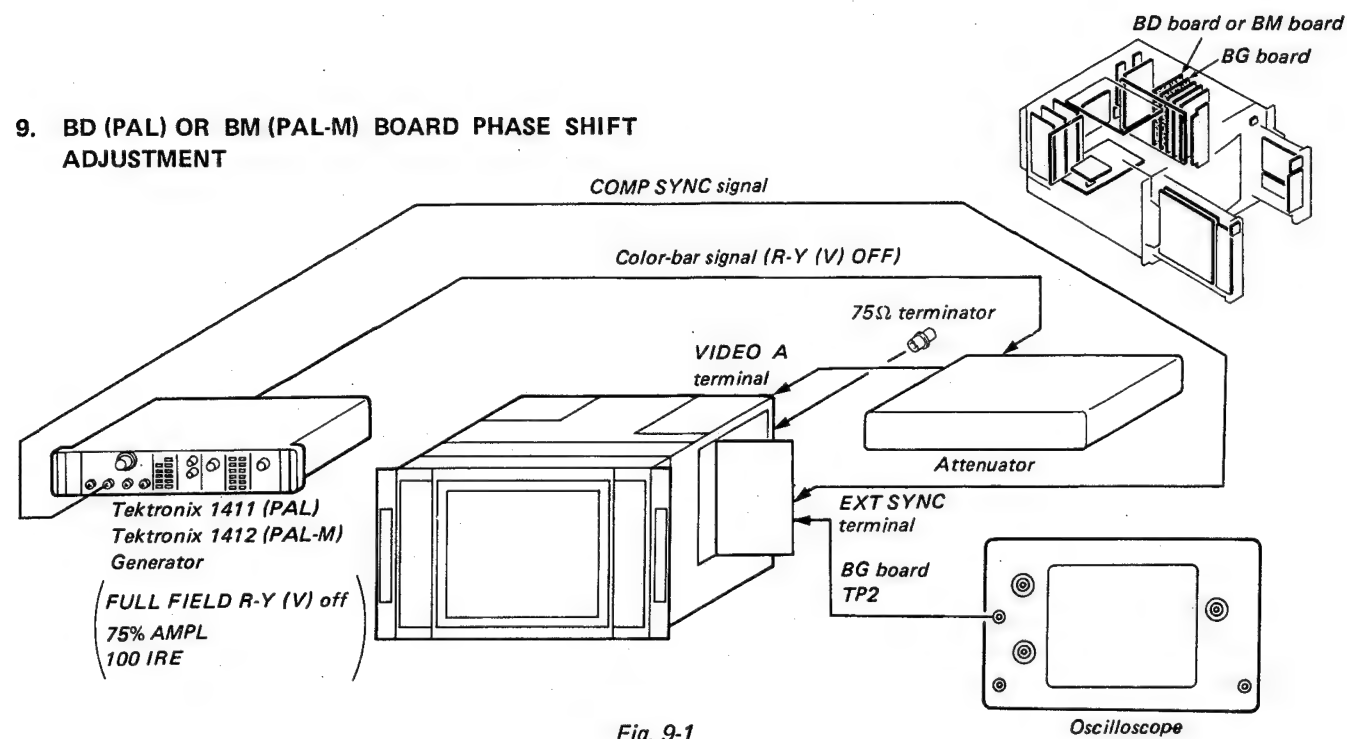

Fig. 9-1
1. Complete the connection as shown in Fig. 9-1.
- INPUT selector (FRONT PANEL (R)) ... A ( )
- SYNC selector (FRONT PANEL (R)) ... EXT ( )